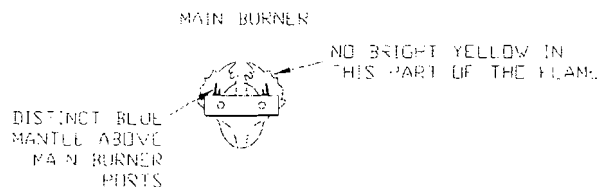

Figure 6
2. Periodically observe the main burner flame to assure it is burning with a hard blue flame with well defined burner ports (See Figure 6). If flame appears yellow